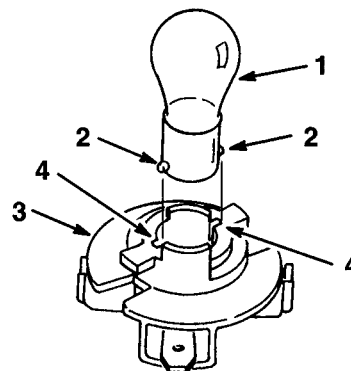

Figure 33
4. Push and rotate the bulb counterclockwise until it stops (approx. 1/4 turn) and remove bulb from the bulb holder (Fig. 33).
1. The bulb has metal pins on the side of its base. Align the pins with the slots in the bulb holder and insert the base into the holder (Fig. 33). Push and rotate the bulb clockwise until it stops.